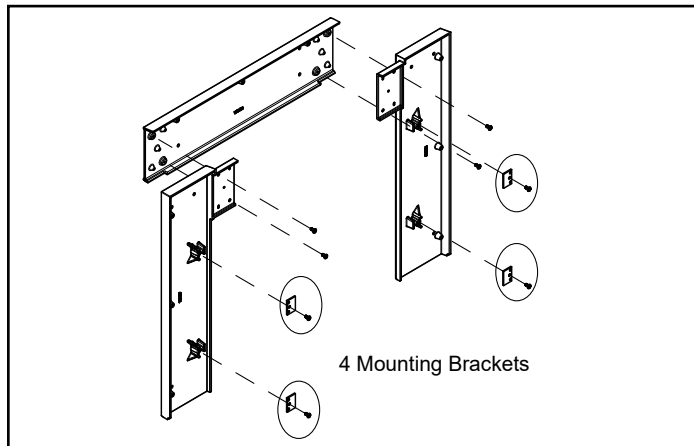

Figure 5.11
4. Attach the mounting brackets to the side pieces included with the kit (**Figure 5.11**).